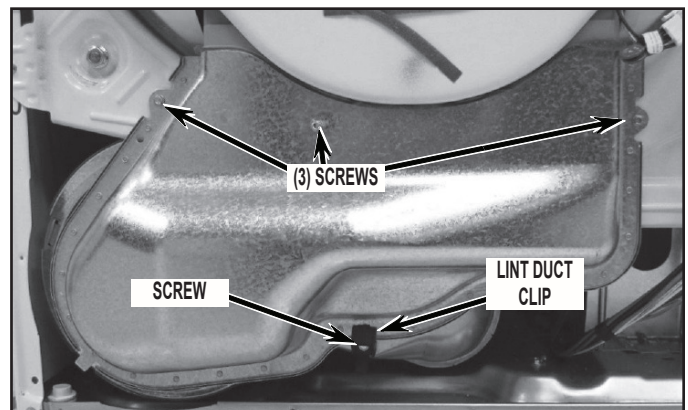

FIGURE 11
13. Remove lint duct by removing four (4) screws and clip as shown in *Figure 11*.